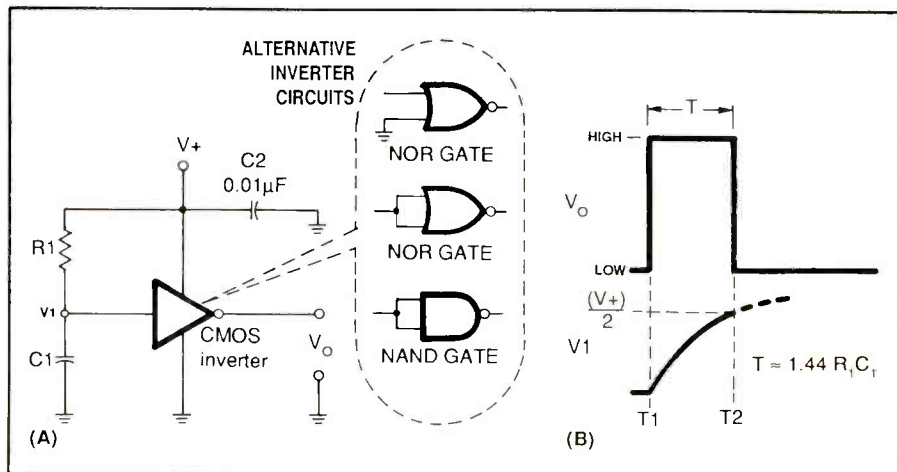
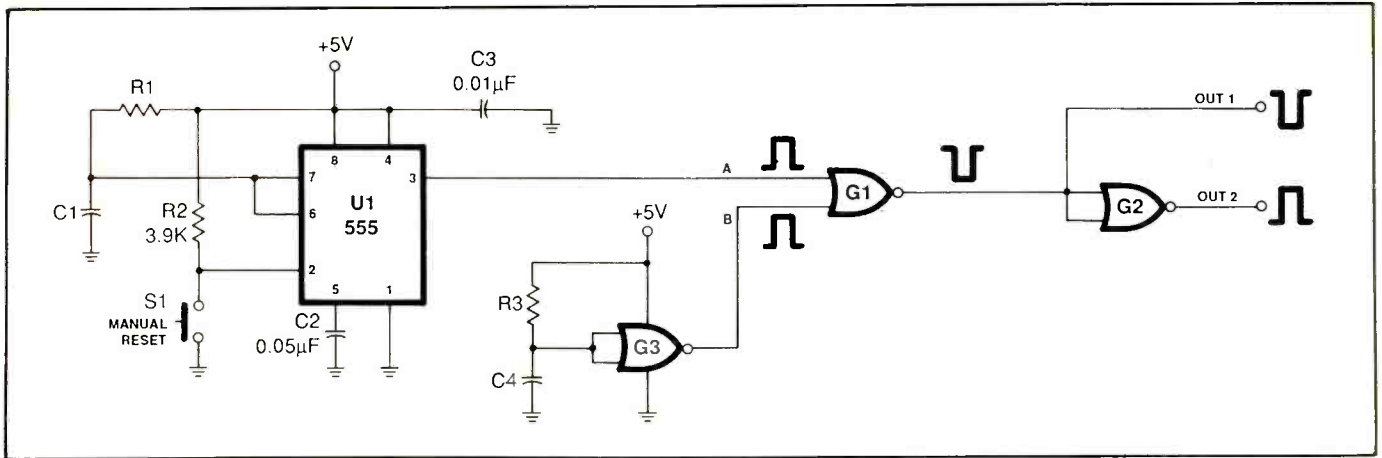
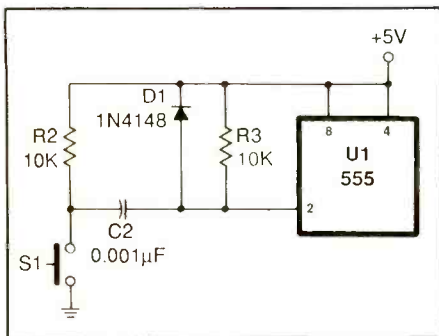
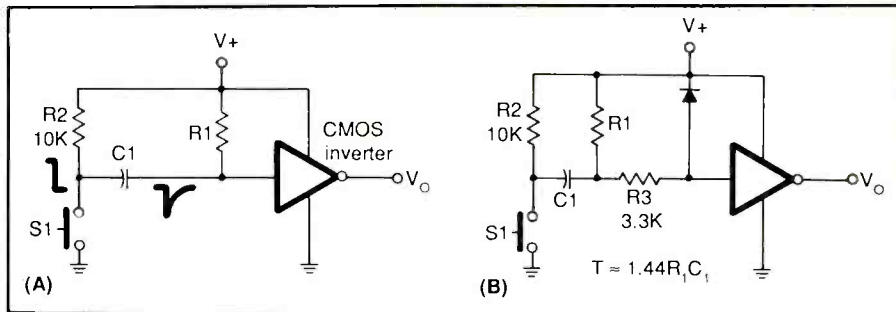

Fig. 1. (A) Power-on reset circuit; (B) timing waveform.
Fig. 3. A power-on reset and one-shot circuit for manual reset in which a NOR gate combines the two pulses into a single pulse signal.
Fig. 4. Capacitor coupling improves on the Fig. 3 circuit.
Fig. 5. (A) Simple manual reset circuit using a CMOS inverted; (B) improved circuit.
The basis for most reset circuits is either the monostable or the half-monostable multivibrator circuit. These circuits output a single pulse for each input trigger pulse. Shown in Fig. 1(A) is a circuit you can use for power-on reset applications. It's made from a CMOS digital inverter.
Several CMOS chips are inverters in their own right or contain individual inverter elements, among other functions. Inverters can also be made from NAND and NOR gates, as shown in the Fig. 1(A) inset. A NAND gate is made into an inverter by connecting together all its inputs. Similarly, a NOR gate with all its inputs connected together is also an inverter. However, the NOR gate also exhibits inverter action if one input is used as the input terminal, and all other inputs are grounded.
The Fig. 1(A) power-on reset circuit consists of a series RC network made up of $R1$ and $C1$ and connected so that capacitor voltage $V1$ is the input signal to the inverter. When power is initially applied, $V1$ is 0 and the inverter sees a low condition. Thus, as soon as the inverter "comes alive" after $V+$ is applied, the input thinks it sees a low.
When the voltage rises to $V+/2$, the inverter sees the condition for a high, which causes its output to snap low. The approximate time required to make this transition and, thus, the duration of the output pulse T in Fig. 3(B), is found using the formula $C1R1 = 1.44T$, where: T is in seconds, $R1$ is resistance in ohms and $C1$ is the capacitance in farads. For the desired 5 ms, the time constant of the $RIC1$ network must be:
An alternate power-on plus manual-reset circuit is shown in Fig. 3. Here, a 555 timer is used to produce the manual reset pulse, the Fig. 1(A) half-monostable circuit to produce the power-on reset pulse (gate G3) and a NOR gate to combine the two of them (G1). Another NOR gate (G2) is used as an output inverter. Because several CMOS two-input NOR gates are often found in the same IC package, the power-on reset generator shown in Fig. 3 (gate G3) and output inverter are NOR gates with their inputs strapped together.
In Fig. 3, the reset switch is connected from trigger input pin 3 of the 555 timer to ground. Pin 2 is normally held high by R2. This pull-up resistor will have a value of 2,700 to 27,000 ohms, depending on supply voltage (not critical). The value shown in commonly used with 5-volt dc power supplies.
One problem associated with the Fig. 3 manual-reset circuit is that the output pulse remains high as long as the switch is closed. In some cases, this is an advantage, but it's usually undesirable. A better solution is to make the circuit output once—immediately
Shown in Fig. 4 is a modified manual-reset circuit in which trigger switch S1 is capacitor-coupled to the input of the 555 timer. Two pull-up resistors are used: R2 keeps the switch at V+ when S1 is open, and R3 is used to keep trigger input pin 3 of the 555 timer normally high. Closing S1 grounds one end of C2, causing the capacitor to begin charging. Because the initial potential across C2 is zero, the 555 trigger input momentarily sees a low condition and triggers the output pulse.
Diode D1 in Fig. 4 is used to clip the input signal to the 555 trigger pin. Because the resistors and capacitors form a differentiator network, the output will actually be two spikes, one positive-going and the other negative-going. The unwanted spike is clipped by forward-biasing D1.
Other capacitor-coupled manual reset circuits are shown in Fig. 5. These
replace the 555 manual-reset circuit in Fig. 3. Circuits A and B in Fig. 5 are based on CMOS inverter circuits, as was the power-on reset circuit.
After power-up, the input of the inverter in Fig. 5(A) is high because $R1$ acts as a pull-up resistor to $V+$. Hence, the output of the circuit is low. Both ends of $C1$ are at the same potential close to 0 volt. Closing $S1$ grounds one side of $C1$. Because capacitor voltage is near 0, the input of the CMOS inverter momentarily drops low until the charge on the capacitor reaches a certain point. A modified version that provides better triggering and reset uses a snubber resistor and diode (like the 555 version shown in Fig. 4).
er the outputs of several open-collector inverters in a wired-OR configuration. Pull-up resistor $R1$ serves all three inverters. Except for use of three parallel connected inverters, this circuit is similar to Fig. 5(A).